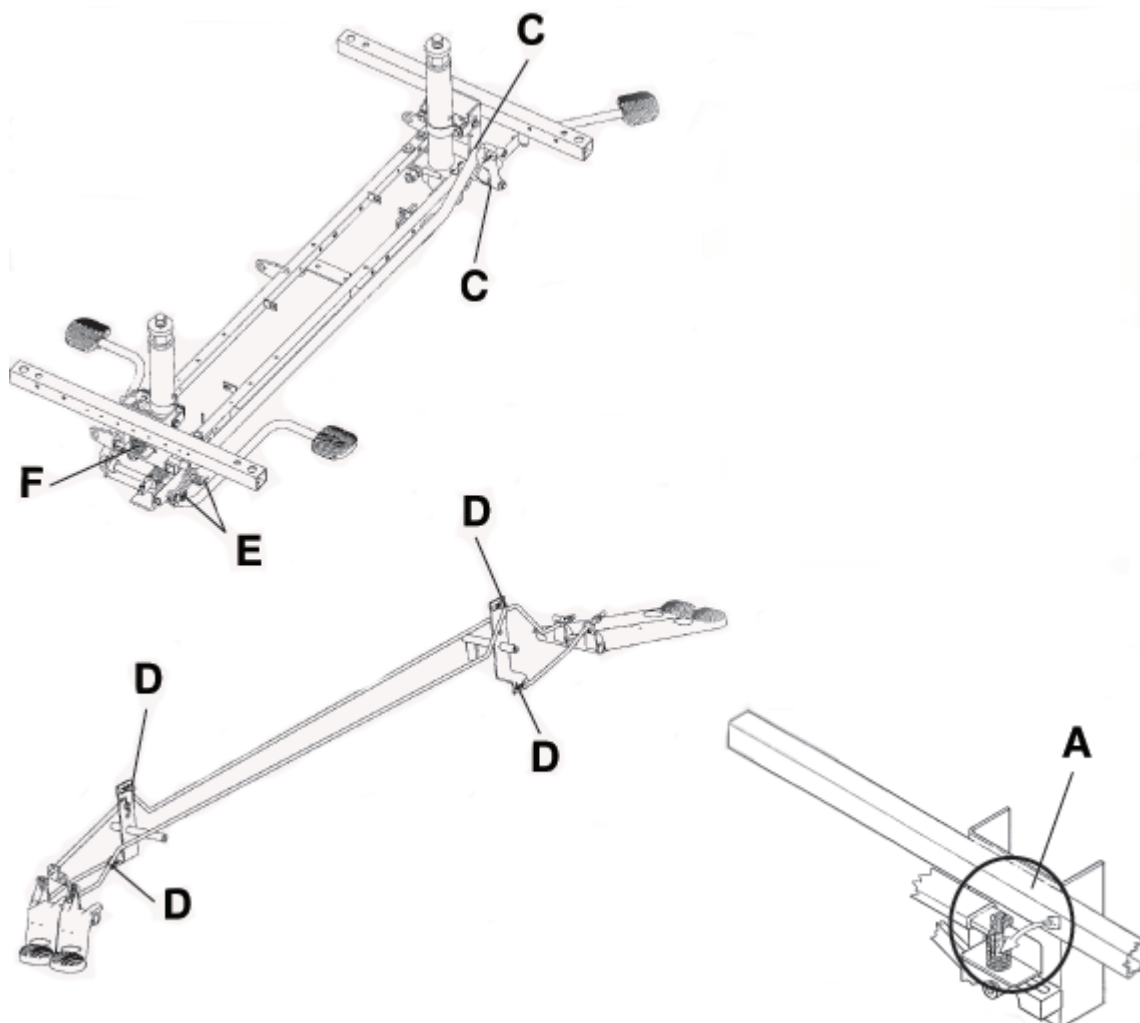

Figure 7 – Base lubrication
1. Lubricate the adjuster rod (A) (Figure 7).
2. Lubricate all of the pump links (C), release links (D), pump pedal slides (E), and jack pump springs (F).